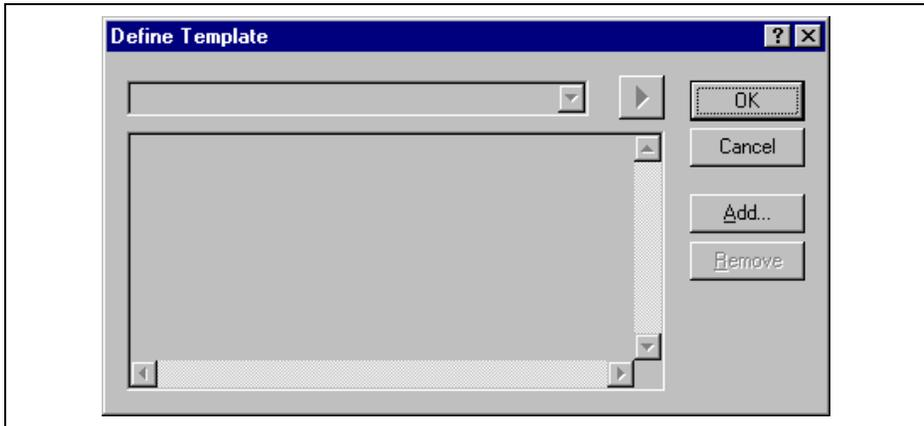

Figure 4.14: Define Template Dialog
1. Select [**Edit->Templates->Define Templates...**], select [**Templates->Define Templates...**] from the local menu, press **CTRL+T** or click on the define template toolbar button (). The dialog shown in figure 4.14 will be displayed.
- Select [**Edit->Templates->Define Templates...**], select [**Templates->Define Templates...**] from the local menu, press **CTRL+T** or click on the define template bookmark toolbar button (). The dialog shown in figure 4.14 will be displayed.